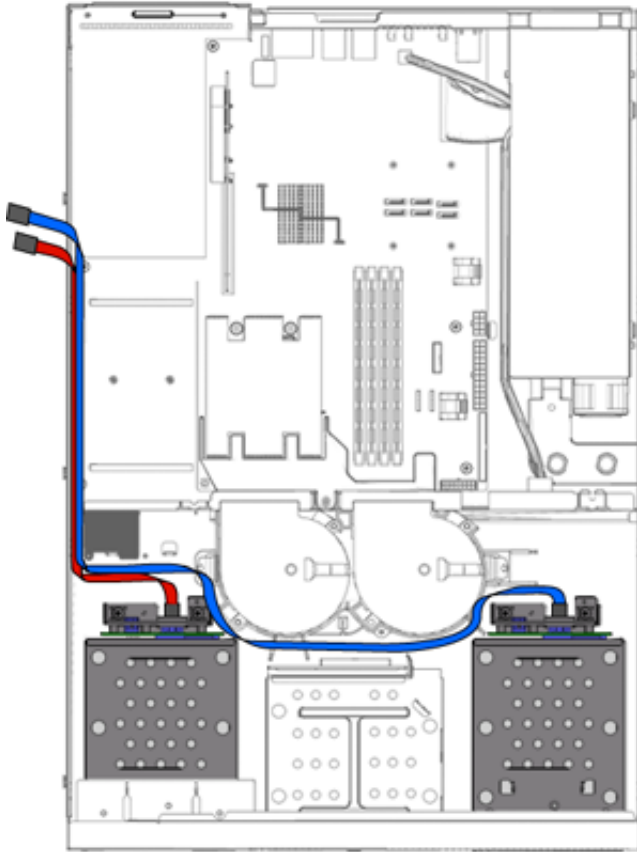

FIGURE 4-14 SATA Drive Cable Routing
2. **Reroute the hard drive cables. See FIGURE 4-14.**